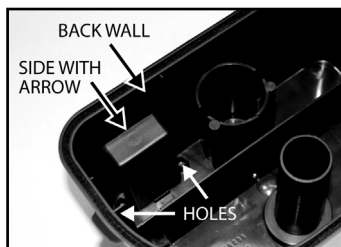

FIGURE 3
3. Place Sensor Block back into corner of Water Filtration Chamber as shown (FIGURE 3). Block will fit between two holes in bottom of chamber.